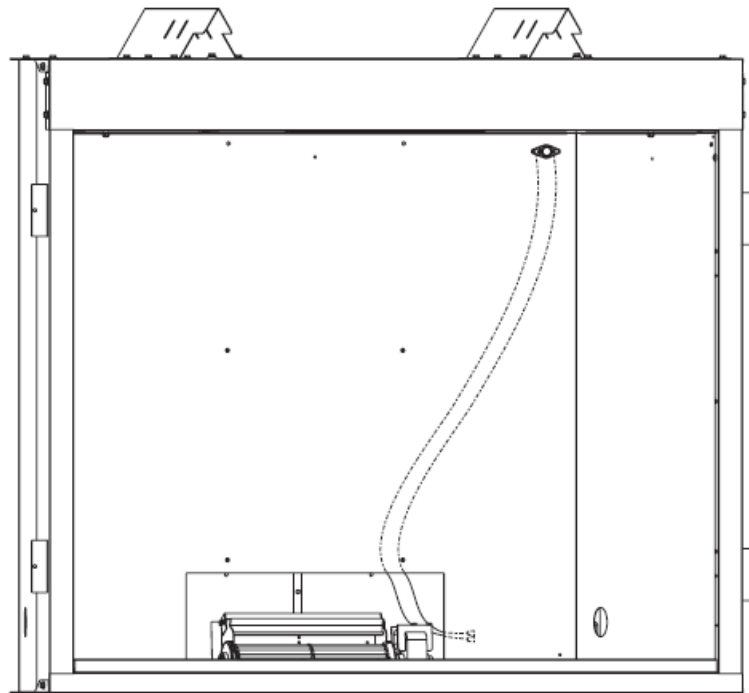

Figure 16
6. Next, find the fan control switch and wire assembly. Feed the wires through the hole at the top of the firebox, and secure the fan control switch with (2) #6 screws provided. See Figure 16.
7. The fan control wires will slide down between the firebox and the outer wrap near the blower assembly. See Figure 16.